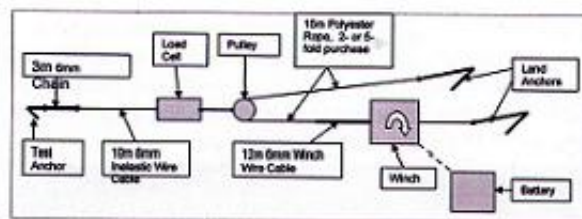

Fig. 1 - schematic of anchor testing equipment
**Anchor Testing** - Once we got our anchoring technique sorted out, I became interested in how different anchors behave when put under real stress such as we experienced in the July 1988 storm. It is almost impossible to conduct proper tests on board a yacht as the pulling force cannot be controlled. You need land-based equipment. Fortunately, near Edinburgh, we have some easily accessible tidal pools at Longniddry beach, Gosford Bay on the south side of the Firth of Forth. The seabed is medium-hard sand. Tidal pools are ideal as the test anchor can be on the seabed under water and easily seen, while the pulling equipment is on the beach. And there is no tide to bother about. Figs.1 & 2 show the set up.